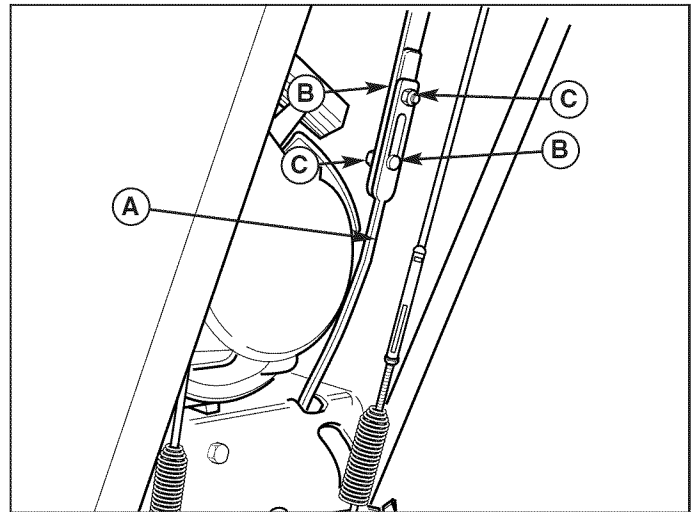

Figure 18. Speed Selector Linkages
1. Loosen the two nuts (C, Figure 18).
3. Push the lower rod (A) into the housing and tighten the two nuts (C). Do not lift up or down on rods while tightening. Make sure the shoulders of the carriage bolts (D) are in the slots.